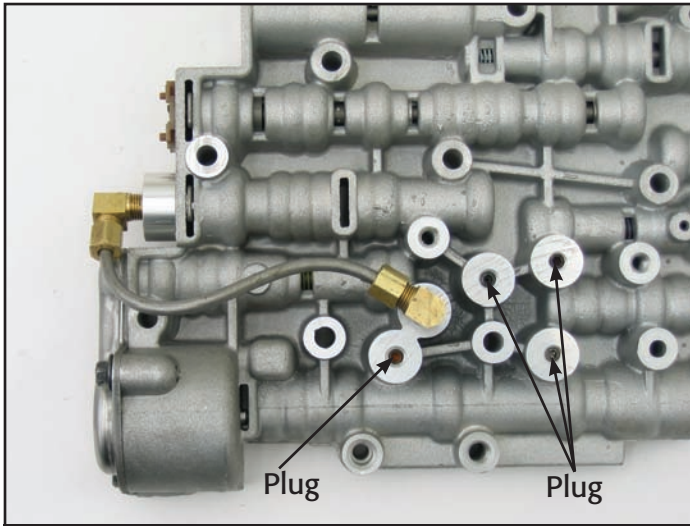
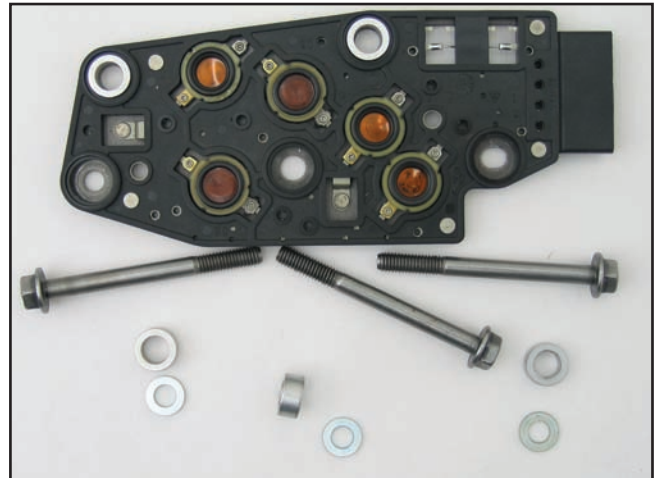

Figure 13:
Figure 14:
the pressure switch manifold with Allen head set screws, because you won't be using the manifold any more (figure 13). Because the pressure switch manifold is 0.300" thick, you must use shorter bolts to replace the three that went through the manifold. Or you can do what I did and pop three of the inserts out and add washers to make up the difference in length (figure 14).
- 4) Using 3/16" steel tubing, fabricate a tube to connect the two fittings (figure 13). Try to form the tube into the shape of an "S" so it's easier to install.